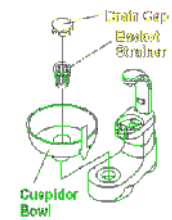

Fig.6-24 Cuspidor Bowl
(4) Cuvette crachoir (Fig.6-24)